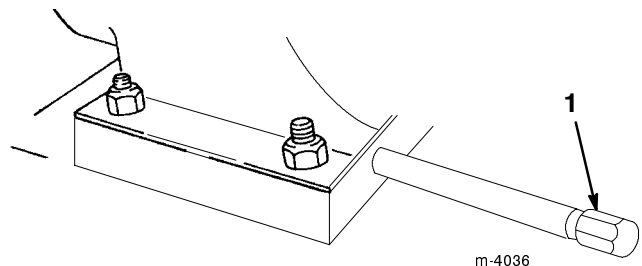

Figure 23
2. Clean the area around the oil drain plug (Fig. 23).
3. Slide an oil drain pan under the drain extension and remove the oil drain plug (Fig. 23).